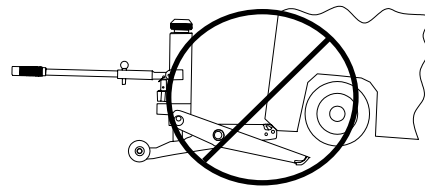

Figure 7B
- **WARNING! NEVER lift with the jack positioned under a sloped or rounded surface, such as the bottom surface of a forklift's counterweights (see Figure 7B).**